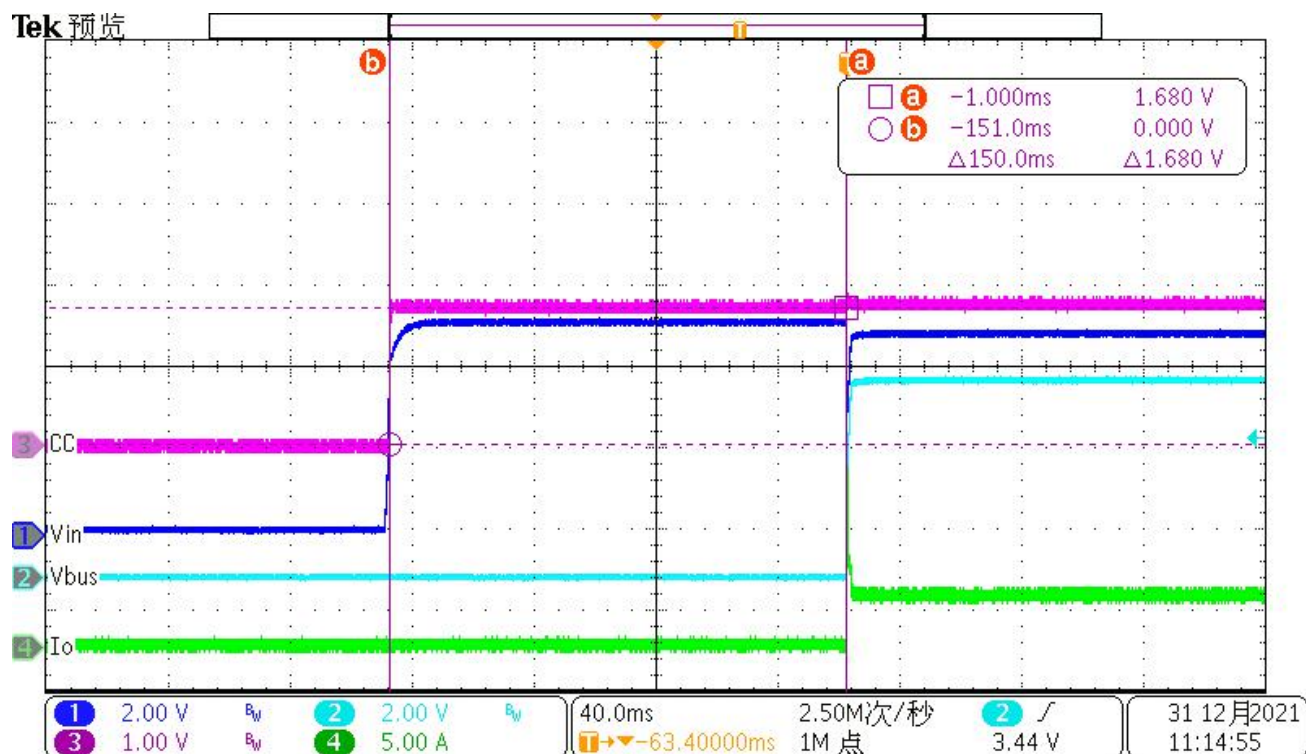
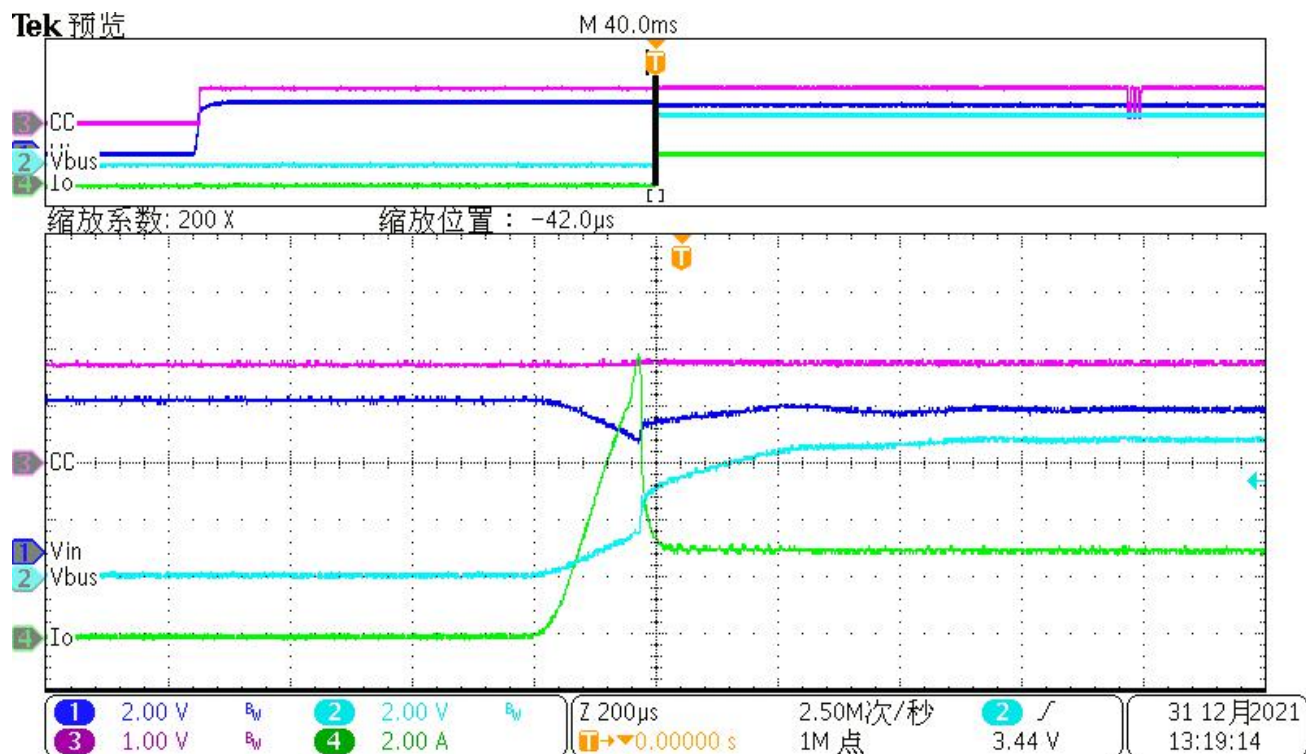

Figure4. full load power-on test wave
Figure5. the detail wave of full load power-on test
2. Power on the 5V3A AC-DC adapter, grab the above waveform as shown figure4 & figure5.